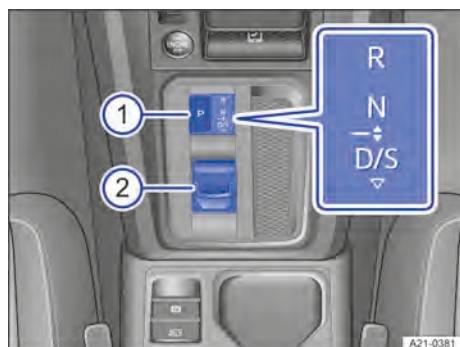

Fig. 103 Selector lever for the automatic gearbox with button for parking lock.
The selected position is shown on the instrument cluster display and on the lower part of the centre console when the ignition is switched on → Fig. 103.
To engage the parking lock, press the **P** button → Fig. 103 ①.
Move the selector lever → Fig. 103 ② to the rear to switch between positions **D** and **S**.